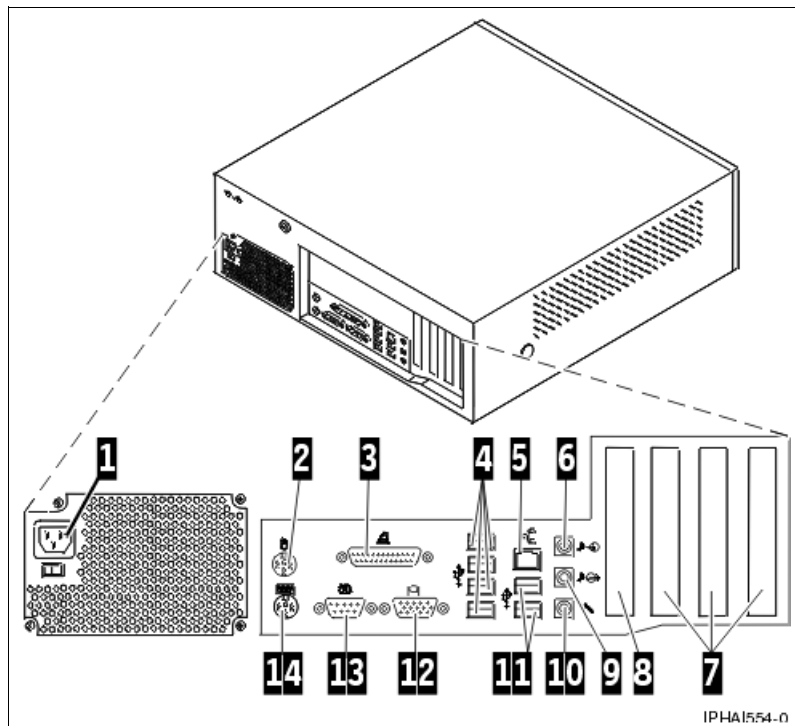

Figure 3-7 Back view of a stand-alone HMC 7310-C03
- A stand-alone HMC 7310-C03 (Figure 3-7 on page 76 and Table 3-2 on page 77)